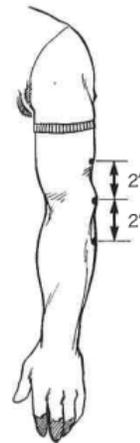

Figure 2
4. Designer marks a second dot 2" (5cm) above the first dot, and a third dot 2" below the dot at the elbow point (Figure 2).